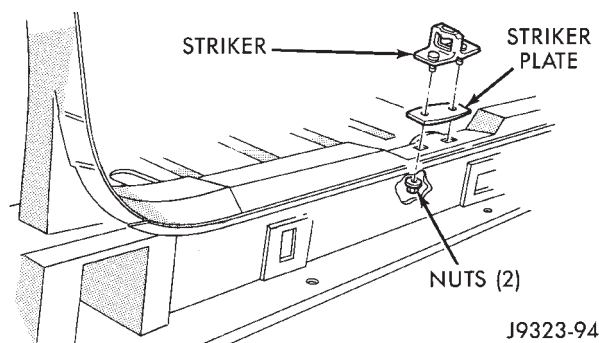

Fig. 27 Liftgate Latch Striker
- (8) Remove latch striker nuts from below scuff plate. Access nuts from under bumper fascia/beam. (Fig. 27)
- (9) Remove striker and shim (Fig. 27).